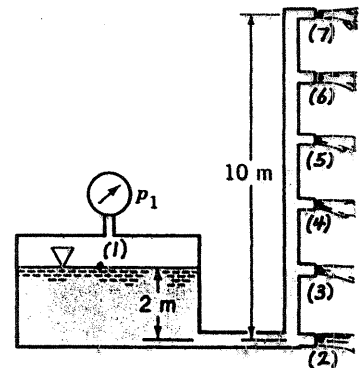

FIGURE P3.54
*3.54 Water flows from a pressurized tank through six equally spaced outlets on the vertical spray tower shown in Fig. P3.54. The diameter of the lowest outlet is 13 mm. Determine the diameters of the other five outlets if the flowrate is to be the same from each of the outlets when the pressure in the tank is $p_1 = 200$ kPa. With outlets of these diameters, the flowrates from each outlet will not be equal to each other if the pressure in the tank is not equal to 200 kPa. On one graph plot each of the six flowrates as a function of p_1 for $100 \text{ kPa} < p_1 < 300 \text{ kPa}$. What range in p_1 is acceptable if it is required that the flowrate from each outlet must be within 10% of the flowrate from any of the other outlets?